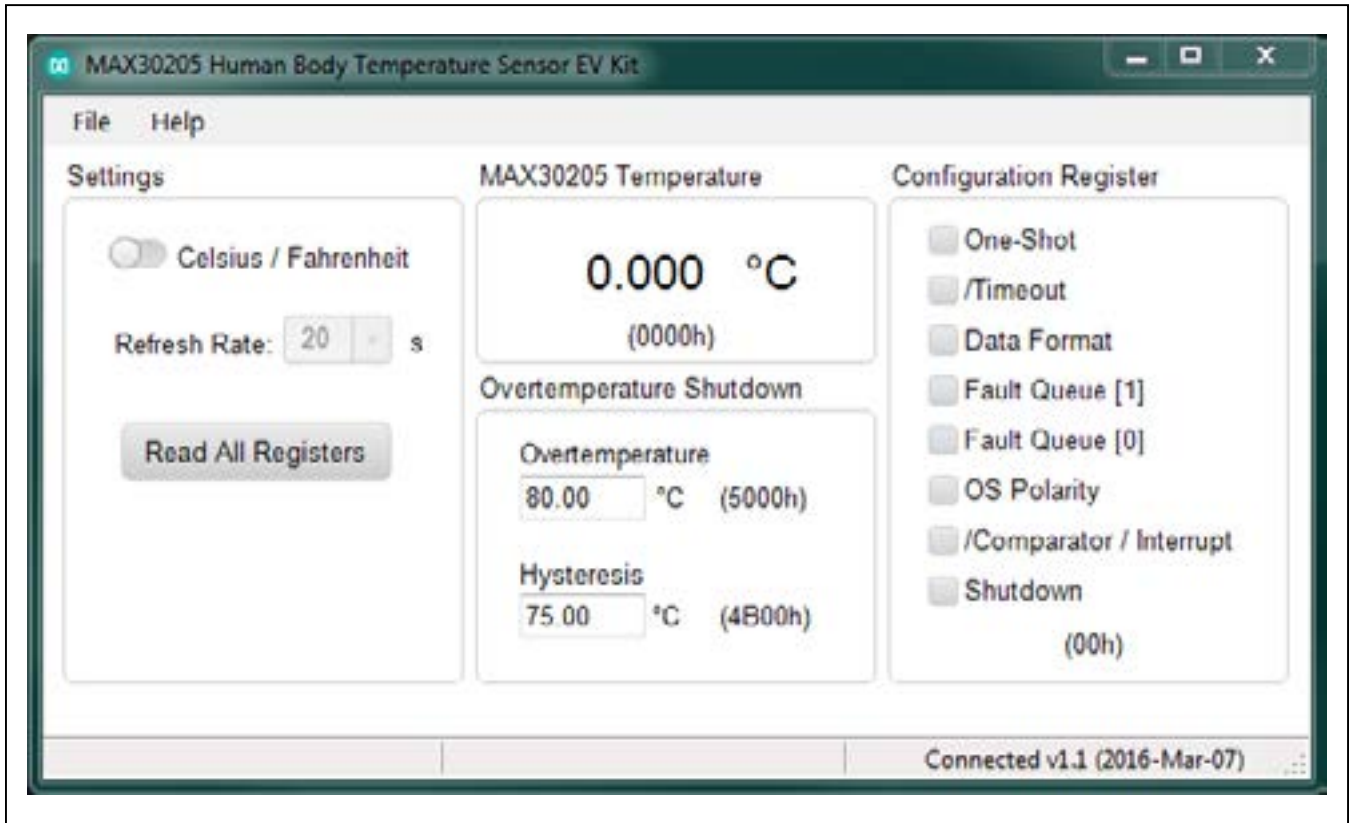

Figure 2. MAX30205 EV Kit GUI Main Window
- 5) Open the *MAX30205EVKit.exe* and verify that the EV kit is connected by observing the status bar at the lower left corner of the GUI. See Figure 2.